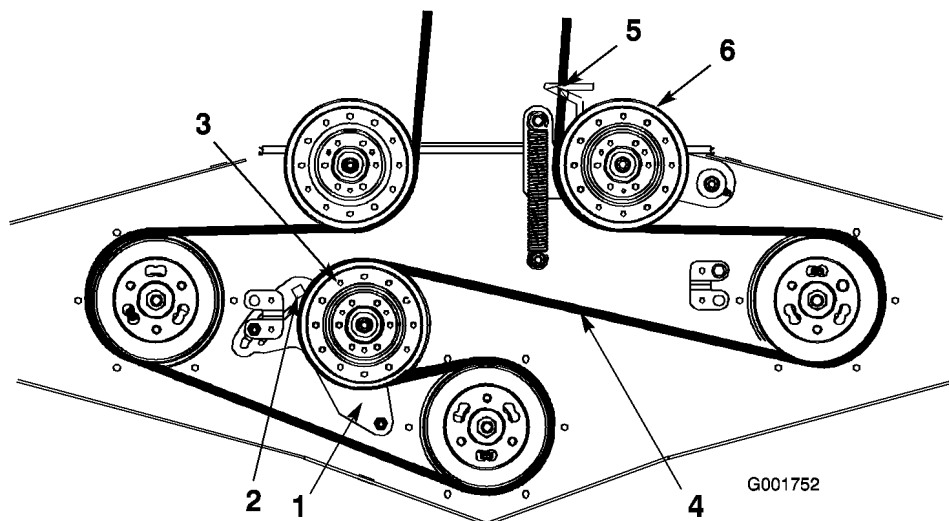

Figure 47
4. Loosen the fixed idler arm and adjust it to relieve the belt tension on the fixed idler pulley (Figure 47).
6. Install the new belt through the belt guide and on the pulleys (Figure 47).